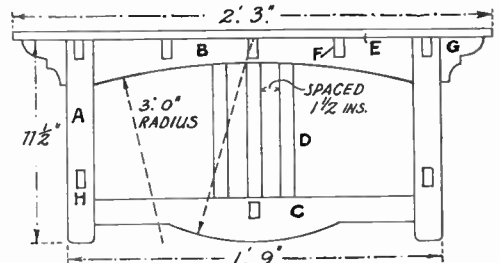

Fig. 3—Dimensions of the rack
top edge of rail (B) with brass screws. To form a finish between the ends of the back frame and the bottom of the shelf, small shaped brackets (G) are prepared and fixed as shown in Fig. 3, the working details for these brackets being given in enlarged form in Fig. 5. They are glued and screwed firmly to the underside of shelf (E). The five brackets